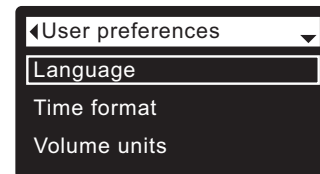

FIG. 55
3. Press the SELECT (O) button to display the User preferences menu (See Figure 55).
7. Press the SELECT (O) button. The display will go back to the User preferences menu (Figure 55).